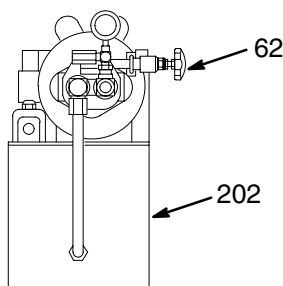

Fig. 16
1. Open the valve (321) at the intake of *each* displacement cylinder of the proportioning pump (308). *Do not* supply RES or ISO to the cylinders yet.
2. Place a waste container under the drain valve (61) of each heater filter (22) to catch the test fluid left in the heater and proportioning pump. Then open both drain valves.
3. Adjust the hydraulic power supply (202) to its **minimum** pressure setting by turning the knob (62) **counterclockwise** until the force from the spring is relieved. See Fig. 16.
4. Check the rotation of the hydraulic pump on the reservoir. An arrow on the pump indicates the correct rotation direction. Turn the electric motor switch (51) on and off; if the pump rotates in the wrong direction, have a qualified person change the wiring. See manual 307550.
5. Turn the electric motor switch (51) on and off several times to prime the hydraulic power supply pump.
**NOTE:** The speed of the proportioning pump is controlled by adjusting the pressure at the hydraulic pump. Referring to Fig. 16, adjust the pressure by turning the knob (62) *clockwise to increase and counterclockwise to decrease*.